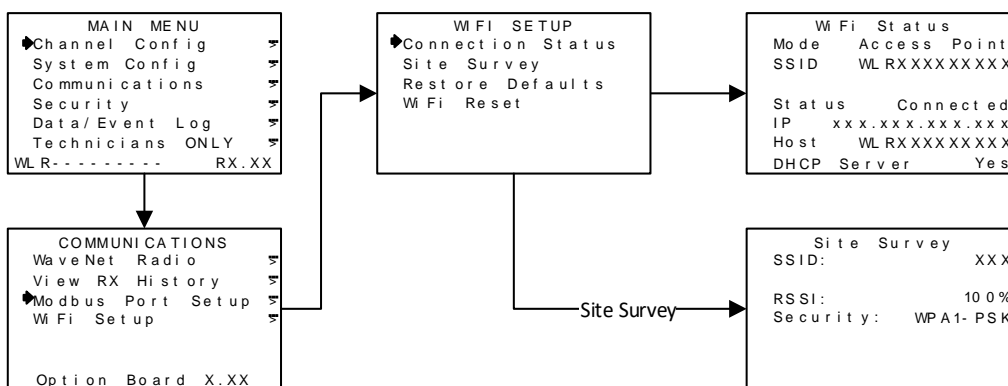

Figure 5-4 Wi-Fi Menu Tree
- The display box for that channel is Green (Figure 5-4).